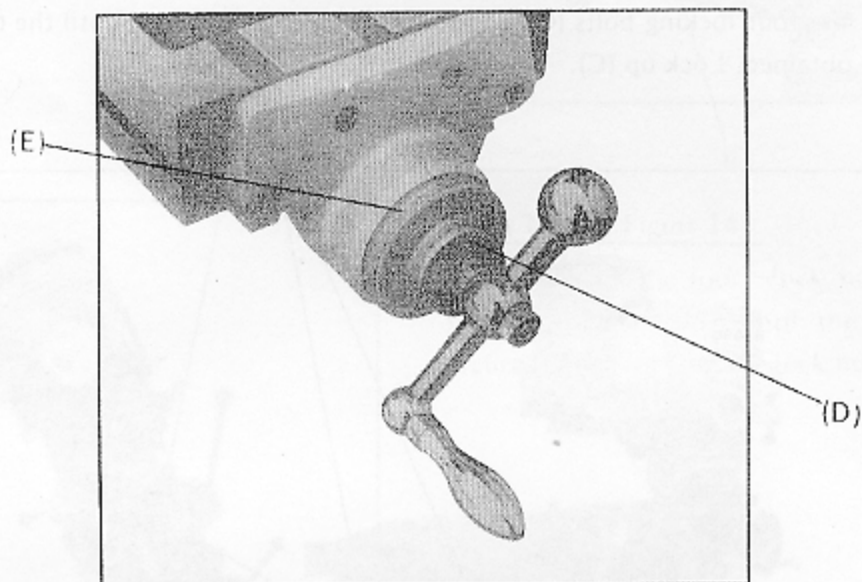

Figure 16
(2) Zero Positioning (as shown in Figure 16) of Dial Ring of Table Feed.
- a. Loosen the nut (D) of dial ring.
- b. Turn the dial right (E) to zero position.
- c. Lock the nut (D) of dial ring.
(3) Setting of Sliding Surfaces of Work Table, Saddle and Knee: